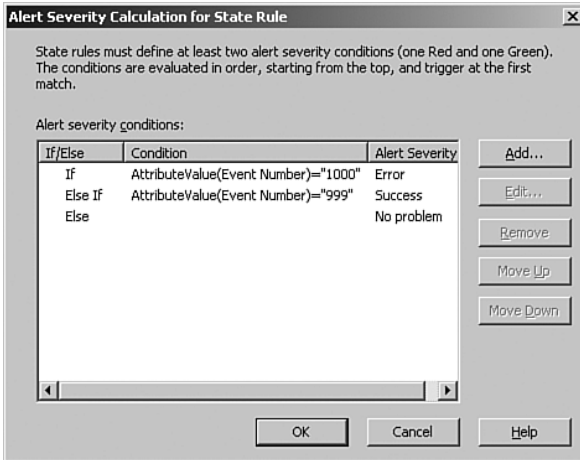

FIGURE 20.25 Alert Severity calculation for state rule.
6. On the Alert Severity Calculation for Rule State screen specify the information provided in Figure 20.25. This states that if the event number is 1000, it is an error, and if the event is 999 it is a success.
4. At the Alert Severity Calculation for Rule State screen use the information previously provided in Figure 20.25, which states that if the event number is 1000 it is an error and if it is 999 it is a success.